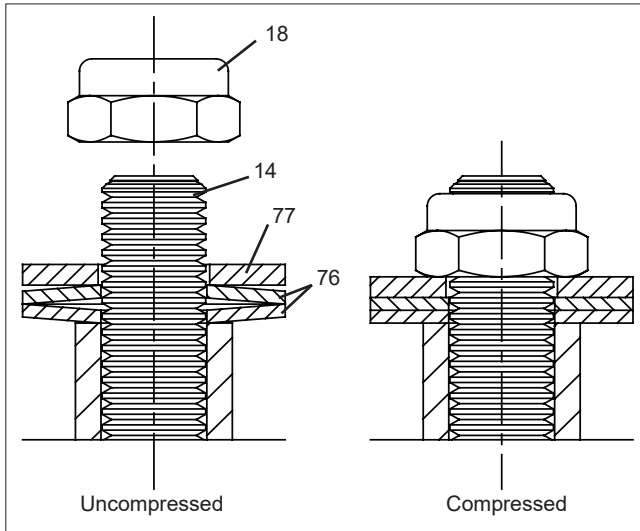

Figure 5. Proper Disc Spring Orientations
9. Place the compression ring (9) on the stem (5) and fit the compression plate (10) over stem (5) and bonnet studs (14). Place one stop bushings (50) over each bonnet stud (see **Figure 5** for proper orientation).
10. Place indicator stop (32) over the stem (5). A tamper-proof pin in the stem will allow the indicator stop onto the stem only one way. At this point, the stem with the indicator stop mounted and located between stop bushings (39) is positioned so that a counterclockwise rotation of the stem will open the valve.
11. Place retaining ring (34) over the stem and into the groove on the stem.
12. Place two disc springs (76) over each bonnet stud (14), (see **Figure 5** for proper disc spring orientation). Place a flat washer (77) over each bonnet stud (14).